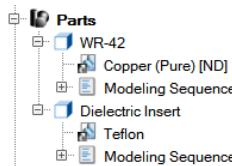

Figure 5.10: Parts List with Associated Materials
- Expand the parts under the PARTS by pressing the (+) symbol. The material associated with each part is displayed as shown in Figure 5.10